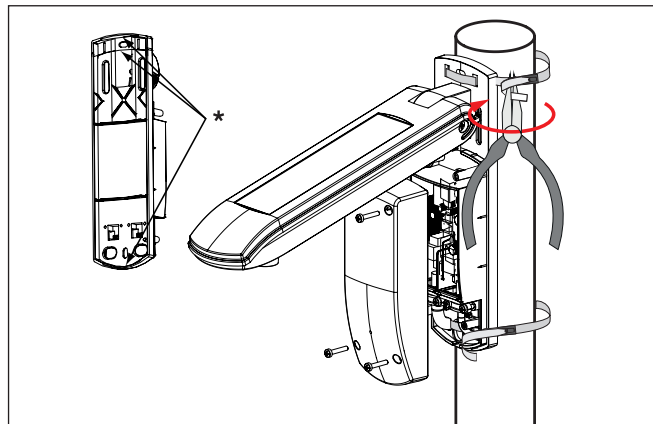

Fig. 6 Pole installation and steel cable ties locking mechanism
- Remove the thin (triangular) pieces at the top and bottom edge of the mounting plate using a wire cutter (Fig. 6 *).